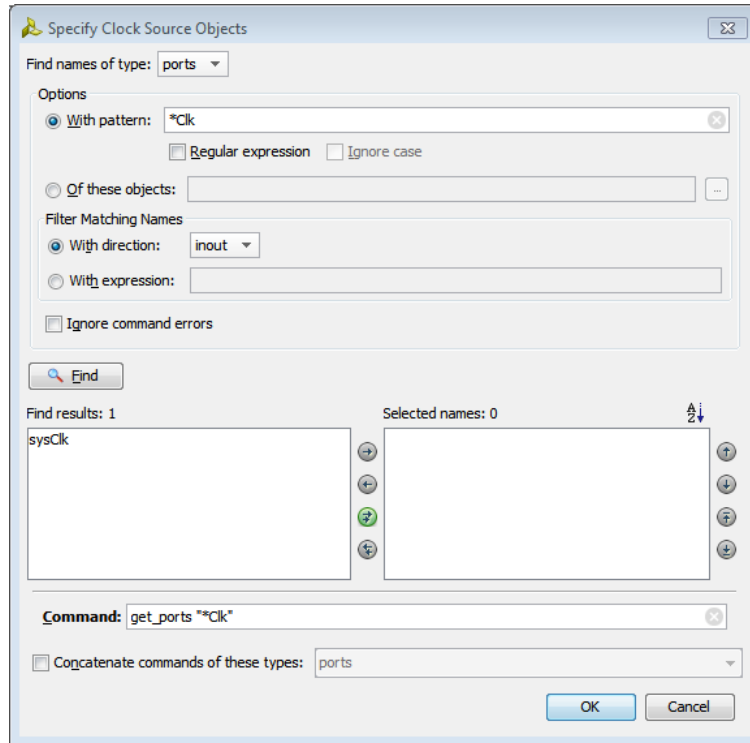

Figure 10: Specify Clock Sources
- b. For the Source Objects field select the browse button (  ) to bring up the Specify Clock Sources Objects search window as shown in Figure 10: Specify Clock Sources.